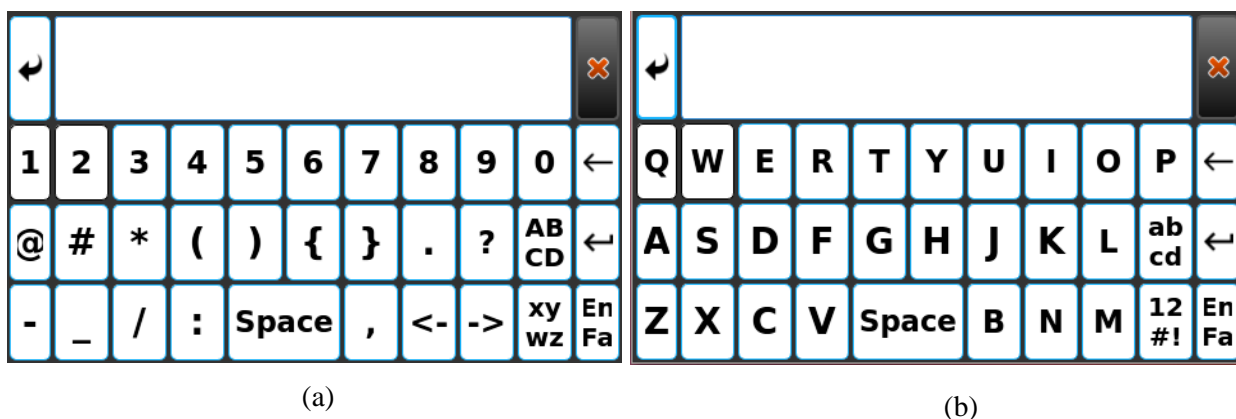

Figure 2-9 Virtual keyboard (a) numbers and symbols, (b) characters
Hospital/Ward: Select this item from the Setting Menu to open the virtual keyboard (figure 2-9) and enter hospital or ward name in the below window.
Factory: Pressing this key opens the virtual keyboard window (Figure 2-9). Screen calibration settings, hardware settings and Demo mode activation will be done in this menu. The operator does not have access to the options in this menu and only people approved by the manufacturer can apply the necessary settings in this menu.
Network: selecting this option, the virtual key board (Figure 2-9) will be opened. The operator does not have access to the options in this menu and only people approved by the manufacturer can enter the necessary settings in this menu by entering the password. Network settings will be made in this menu. This menu consists of three sections: Device, PACS and NTP.
- **Name:** Select this field to enter the patient's name. This opens the virtual keyboard (Figure 2-9). After entering the name, by selecting the Save option, the patient's name is saved and you exit this menu. It should be noted that a maximum of 20 letters can be entered. By selecting the Cancel option, you will enter the previous menu.
- **Age:** Select this field to enter the patient's age. This opens the virtual keyboard (Figure 2-9). The default unit is Year. The other available option is Mounth. After entering the age, by selecting the Save option, the patient's age is saved and you exit this menu. By selecting the Cancel option, you will enter the previous menu.
- **ID:** Select this field to enter the patient's ID. This opens the virtual keyboard (Figure 2-9). After entering the ID, by selecting the Save option, the patient's ID is saved and you exit this menu. It should be noted that a maximum of 20 letters can be entered. By selecting the Cancel option, you will enter the previous menu.
- **Weight:** Select this field to enter the patient's weight. This opens the virtual keyboard (Figure 2-9). The default unit is Kg. The other available option is lb. After entering the weight, by selecting the Save option, the patient's weight is saved and you exit this menu. By selecting the Cancel option, you will enter the previous menu.
- **Height:** Select this field to enter the patient's height. This opens the virtual keyboard (Figure 2-9). The default unit is cm. The other available option is Foot. After entering the height, by selecting the Save option, the patient's height is saved and you exit this menu. By selecting the Cancel option, you will enter the previous menu.
- **Physician Name:** Select this field to enter the physician name. This opens the virtual keyboard (Figure 2-9). After entering the physician name, by selecting the Save option, the physician name is saved and you exit this menu. It should be noted that a maximum of 20 letters can be entered. By selecting the Cancel option, you will enter the previous menu.